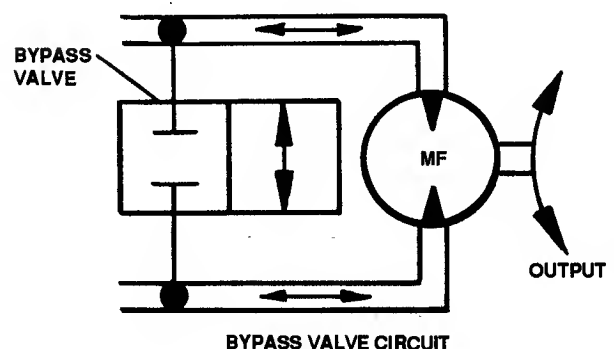

FIGURE 9.13
- (b) Series 15 PV, PT and inline units utilize a screw-type bypass valve which is fully open at 1/2 revolution of the valve stem. Series 15 U transmissions utilize the charge check valves for the bypass function. External plungers are depressed to hold the charge check balls off of their seats, allowing oil to bypass from one side of the pump/motor circuit to the other. See Figure 9.13.